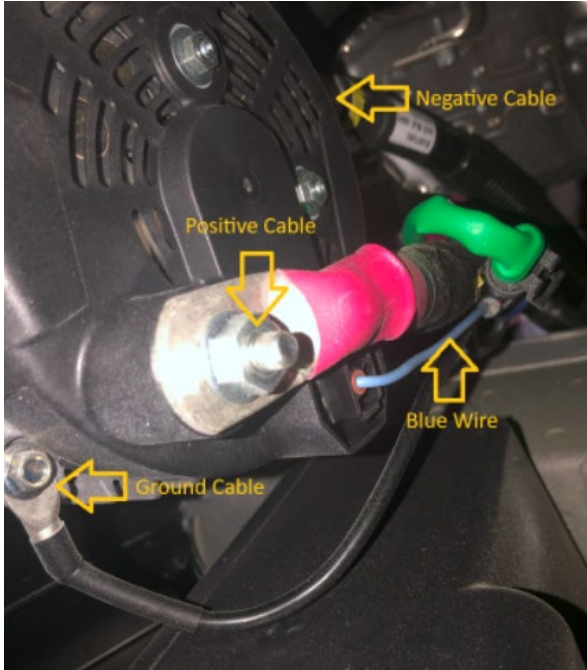

Figure 2
2. Remove existing secondary alternator from mount. Remove positive cable and wrap cable end with electrical tape to prevent any contact. Remove negative cable and then use wire cutters to remove blue wire. Remove ground cable. See Figure 2 for existing secondary alternator diagram.